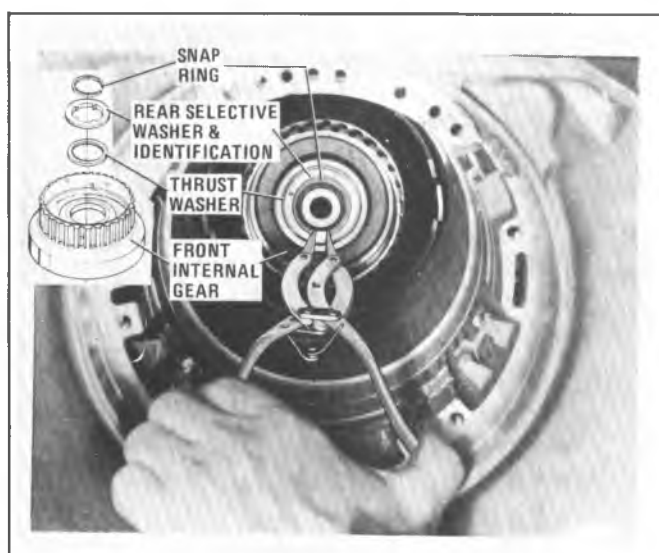

Figure 7A6-120 Installing Output Shaft to Selective Washer Snap Ring
2. Install rear selective washer (Figure 7A6-120).